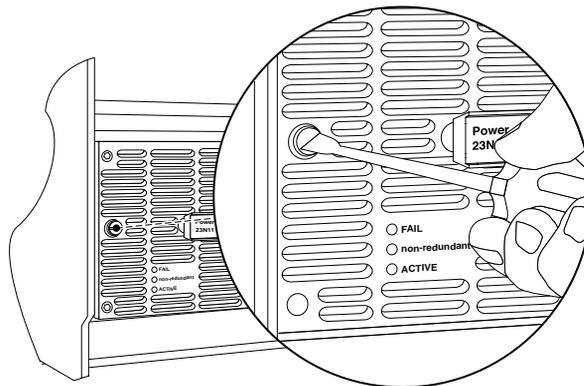

Figure 14. Securing the Power Supply Module to the Chassis
- 2 Using a slotted screwdriver, tighten the two captive screws on both sides of the power supply module, as shown in Figure 14.